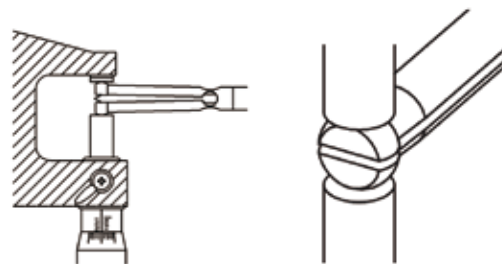

Fig. 1
4. Set the zero point before starting measurement. To set the zero point with an outside micrometer, position the micrometer in the vertical orientation with the spindle of the micrometer as shown. (Fig. 1)